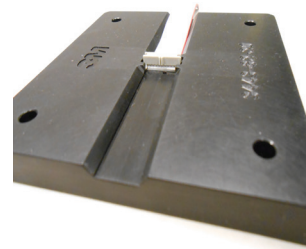

Figure 8
- 5.1 Place the socket connector onto the cover over the cable, verifying the pin 1 indicator is in the correct position. (see Figure 8)